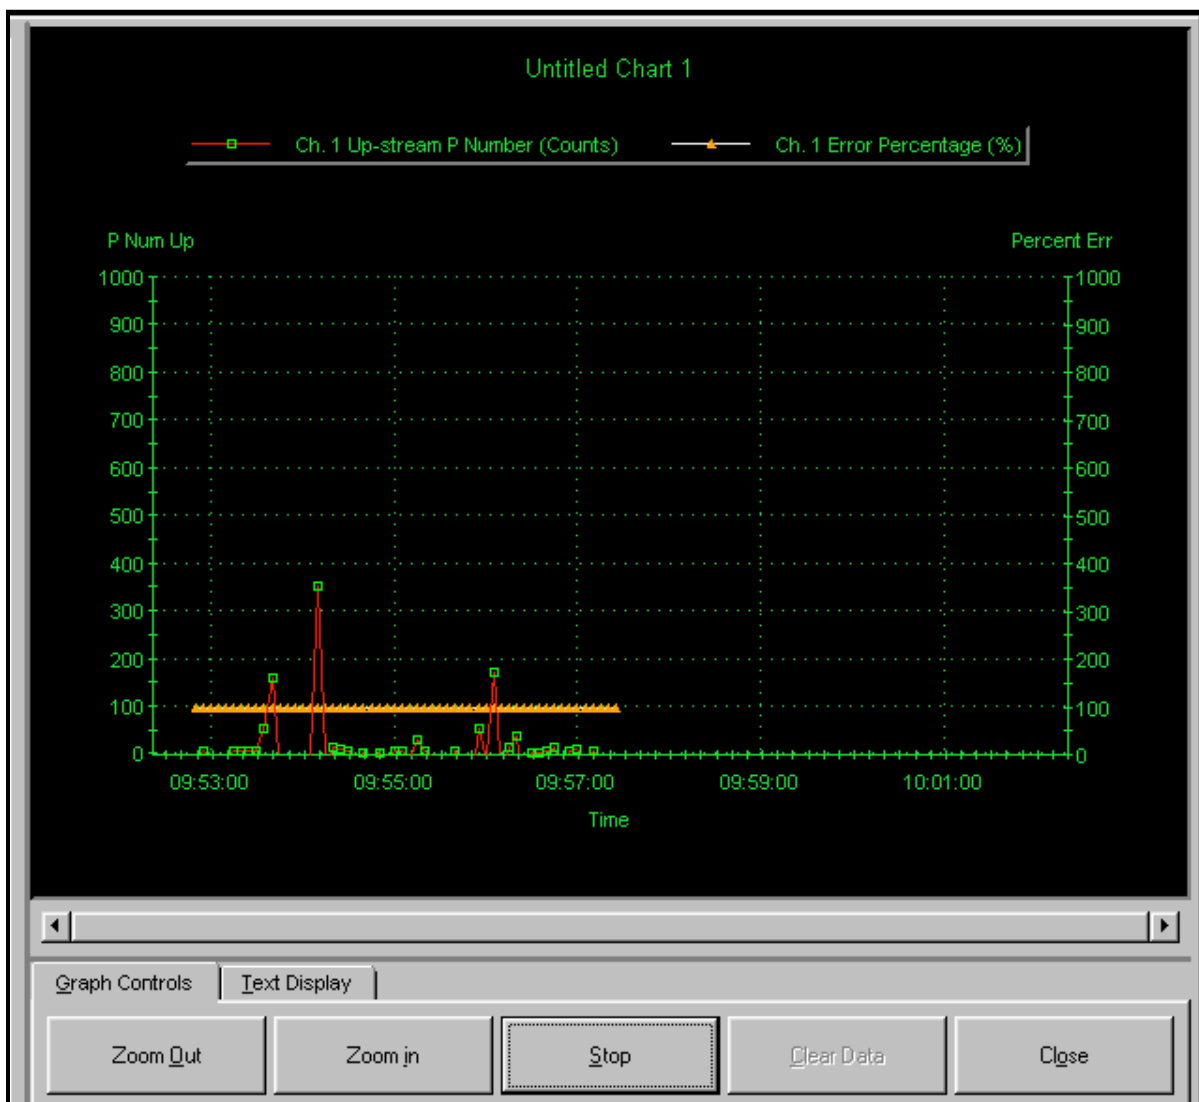

Figure 5-3: Diagnostic Display in Graph Format
6. Double click on one or more of the six parameters and, depending on the number of parameters chosen and the format that was selected in Step 3, a display similar to that shown in Figure 5-2 below or Figure 5-3 on page 5-4 will appear.
- Note:** *The Graphing/New selection will allow only one or two parameters per display (see Figure 5-3 on page 5-4).*